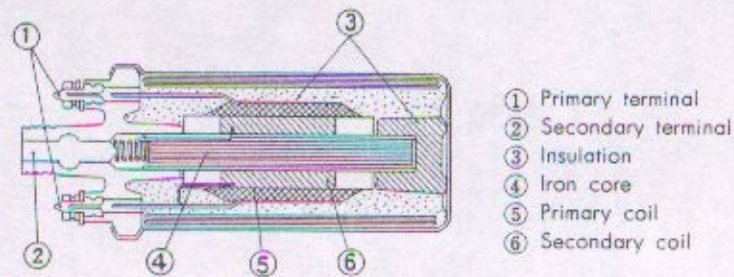

Fig. 1-5. Function diagram of ignition coil of Model CB72, 77
The principle of ignition coil is similar to that of induction coil. As shown in Fig. 1-5, rotating cam axle and crank with constant periodical relation, there generates high voltage on the secondary coil as follows.
- h. Then returning cam angle to original state to actuate the function as stated (a) to follow the same process repeatedly (Fig. 1-5~1-7).